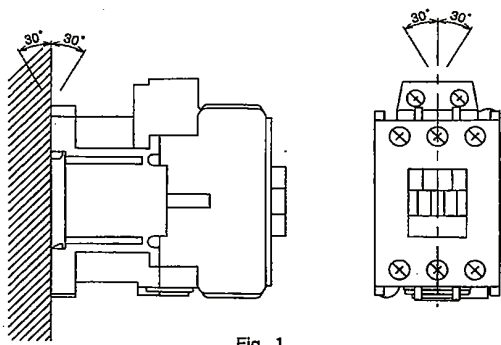

Fig. 1
- Mounting on a vertical surface. The product must not incline more than 30° . (Fig.1)